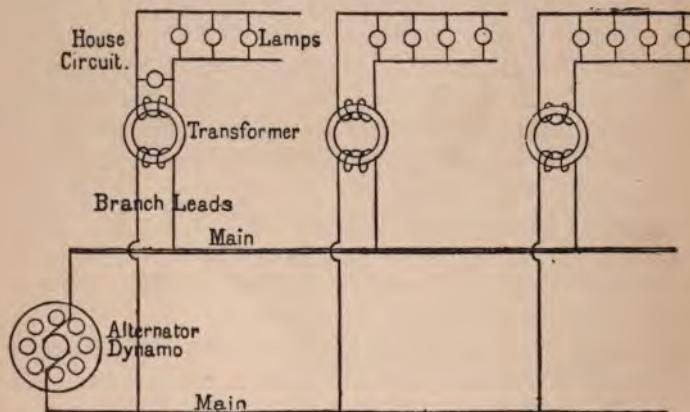

Fig. 48.—Diagram of Transformers in Parallel.
*Working Off Transformers.*—The diagrams (Figs. 48 and 49) represent the usual arrangement of running parallel circuits off convertors, alternating currents being employed. The diagrams are self-explanatory.